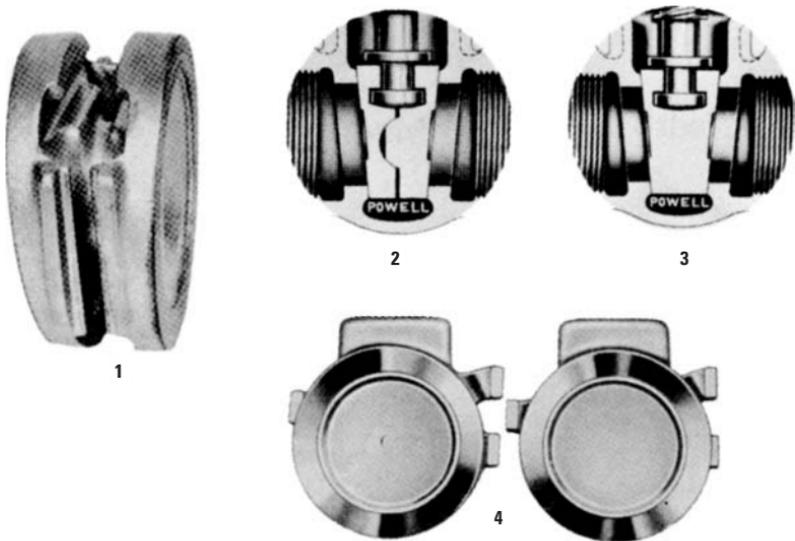

Figure 9-5 Wedges for gate valves. (Courtesy Wm. Powell Co.)
Wedges for gate valves are available in the following types: (1) split wedge, (2) solid wedge, (3) double wedge, and (4) flexible wedge. These wedges are illustrated in Figure 9-5.